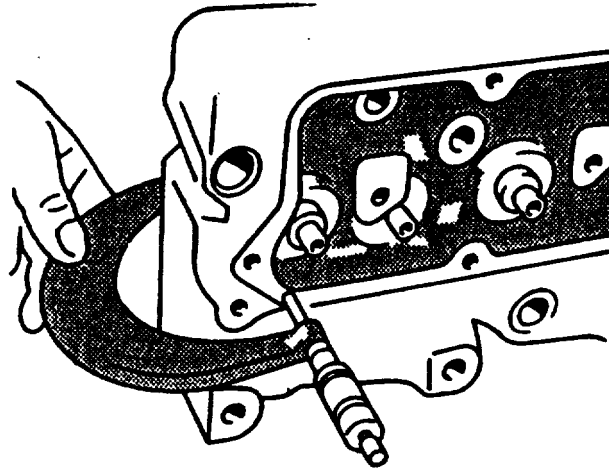

FIGURE 3-101. Measuring Cylinder Head Thickness
- (1) Check cylinder head for flatness using precision straightedge and feeler gage. Check lengthwise and crosswise in several places. A good secondary check is one that is on a diagonal.
- (2) The out-of-flat measurement must not exceed 0.005 inch (0.13 mm) for the entire length or width of head, or 0.001 inch (0.025 mm) for every 5.90 inches (150 mm) of length or width of head.
- (3) If any measurement exceeds this specification, the cylinder head must be either reconditioned or replaced. Refer to step i and measure cylinder head thickness.
- i. Measure cylinder head thickness (FIGURE 3-101) as follows: (1) If cylinder head thickness is less than minimum allowable thickness of 4.104 inches (104.24 mm), do not resurface it. Install a new cylinder head.